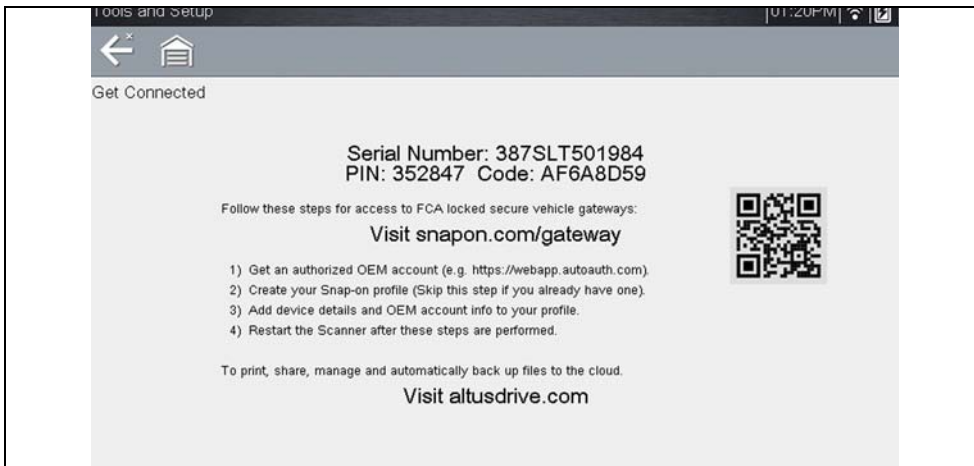
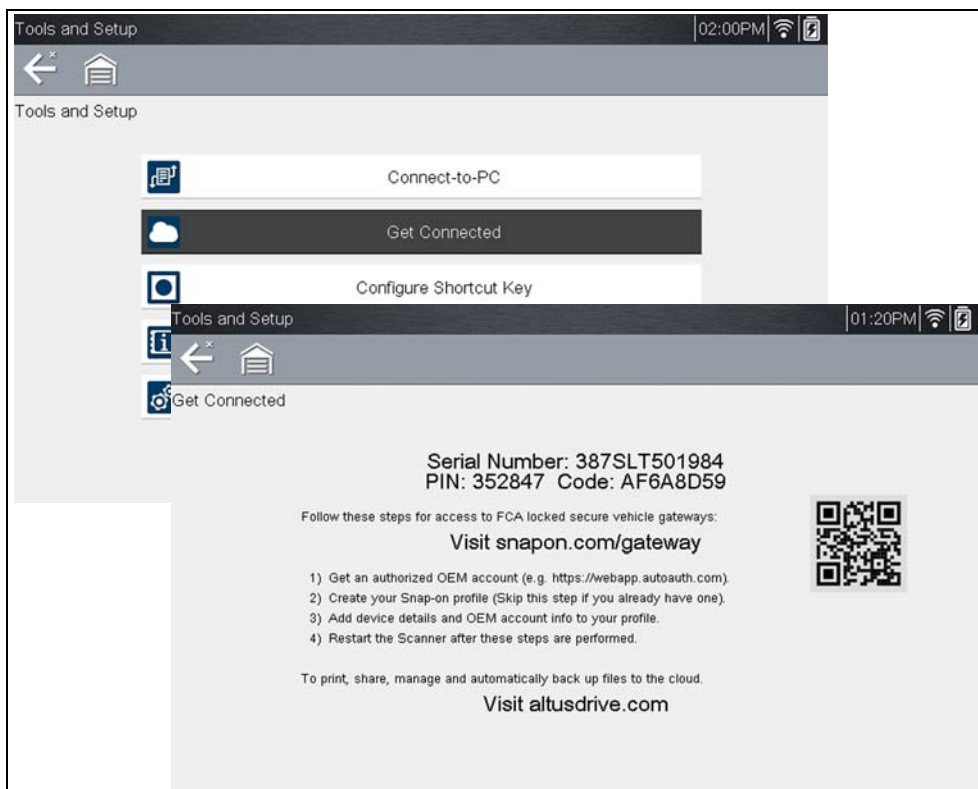

Figure 14-1
Figure 14-3
2. Write down the Serial Number, PIN and Code that are displayed when the device connects to the Wi-Fi network (Figure 14-1), or leave the screen displayed. Registration information can also be found in the Tools menu, see Snap-on Cloud Setup Information Screen on page 95.
*The PIN and Code numbers will change each time you view the Snap-on Cloud Get Connected screen (Figure 14-3 and Figure 14-1). This is normal, any displayed set of PIN and Code numbers may be used to register.*
*The PIN and Code numbers will change each time you view the Snap-on Cloud Get Connected screen (Figure 14-3 and Figure 14-2). This is normal, any displayed set of PIN and Code numbers may be used to register.*
From the Home screen, selecting **Tools > Get Connected** allows you view (Figure 14-3) the diagnostic tool serial number, PIN and Code needed to register.
The PIN and Code numbers will change each time you view the Snap-on Cloud Get Connected screen (Figure 14-3 and Figure 14-1). This is normal, any displayed set of PIN and Code numbers may be used to register.